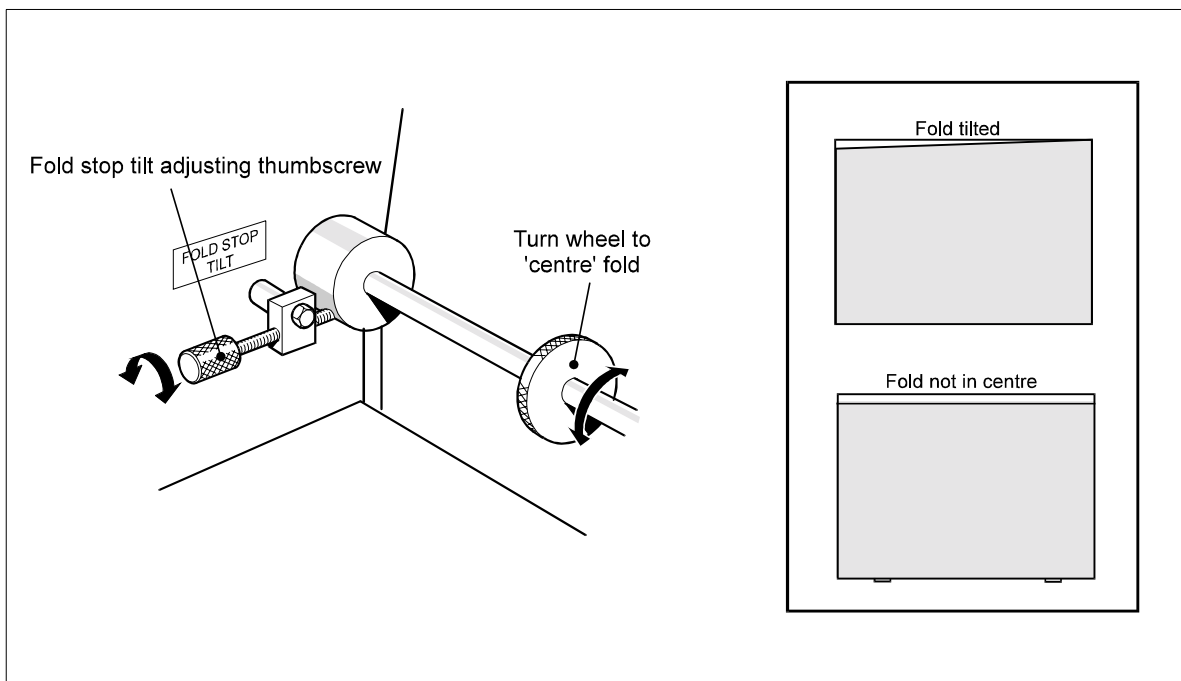

Figure 6 - Fold stop tilt.
5. If fold line is not perpendicular to booklet edges, this can be corrected by adjusting the fold stop tilt thumbscrew, figure 6, on the left-hand side of the fold stop adjusting shaft. Loosen the locking nut and turn the thumbscrew clockwise to raise the left-hand end of the fold stop, or anti-clockwise to lower. Tighten locking nut.